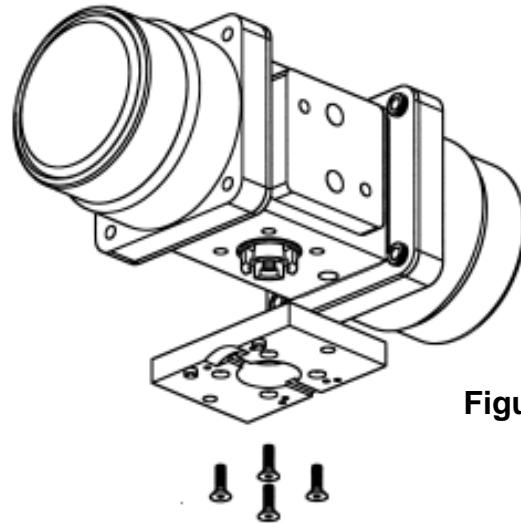

Figure 1
1. Position the actuator upright with driver and the A & B ports oriented as shown in Figure 1.